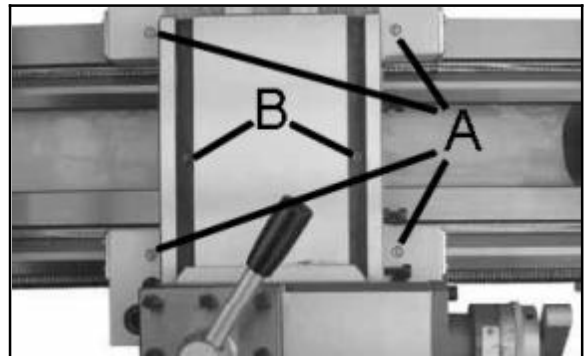

Figure-44 Carriage and cross slide oil fill ports
Lubricate two oil ports (B) shown in figure-44 with 20w machine oil.